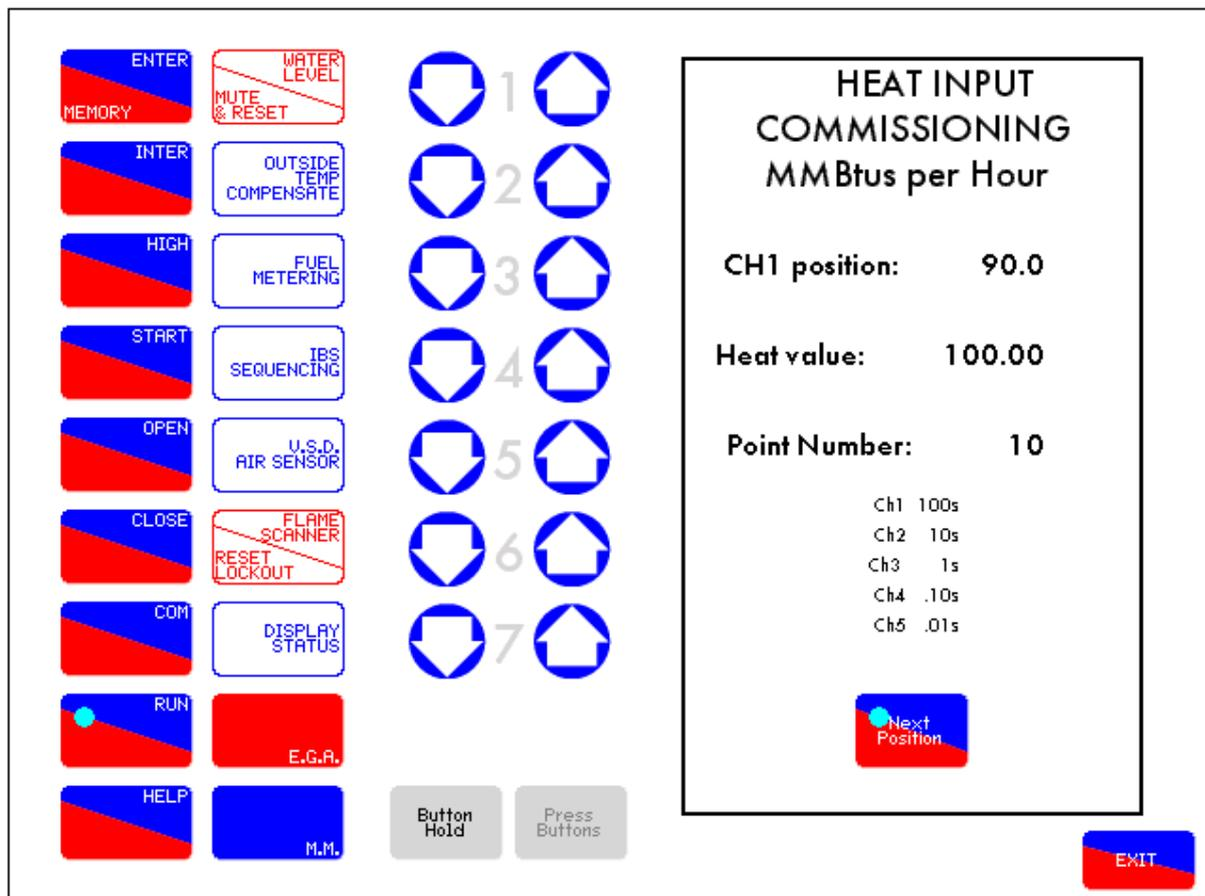

Figure 3.4.2.i Fuel Flow Commissioning
2. If in commissioning mode the unit will restart and then start burner initiation procedures. If in online changes the unit will go back to the Home Screen. Once the burner is modulating the screen in Figure 3.4.2.i will appear.